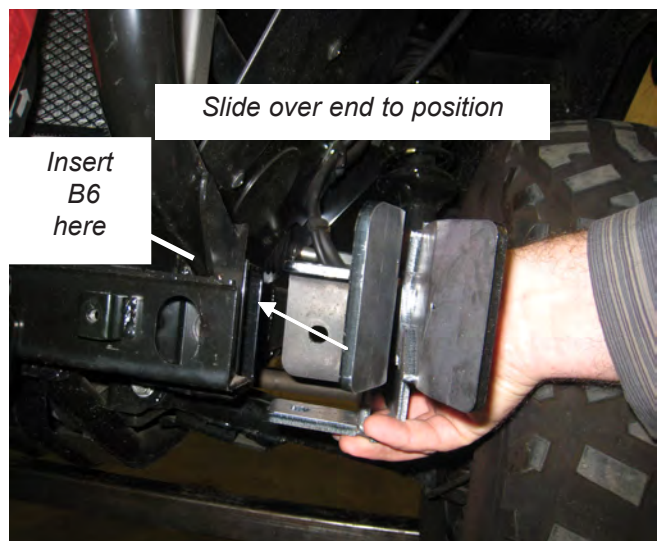

Figure 3
3. Place plow mounts (A1,A2) into position. See figure 3. Install fasteners (B1,B2,B3) (B4,B5,B6,B7) as shown in the parts list. Do not tighten at this time.
Note: To install fastener B6, slide fastener in through opening under bumper tube. See figure 3.